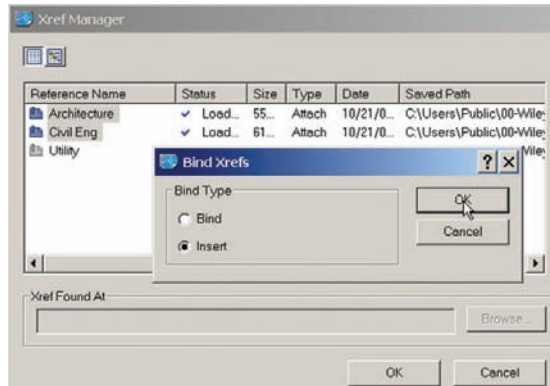

Fig. 17-9: Bind/Insert an XREF with the needed information into the CAD_SU_Base drawing.
4. Bind/Insert them to the CAD_SU_BASE. When you bind/insert an XREF, it will be embedded in the base file instead of being externally referenced. The bound XREF, which becomes part of the drawing and not linked as a separate file, can be edited easily. To bind an XREF (Fig. 17-9):